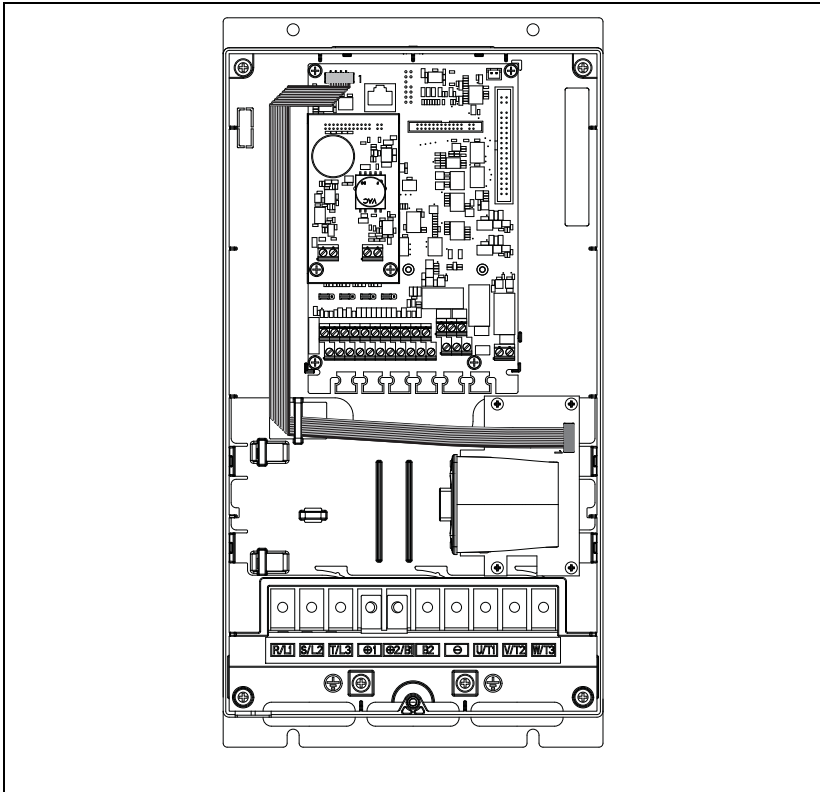

Fig. 41 Mount the 365mm long flat cable.
3. Mount the 365 mm long 8-pole flat cable according to Fig. 41. Connect the cable to connector X4 on the control board and connector X2 on the option board.